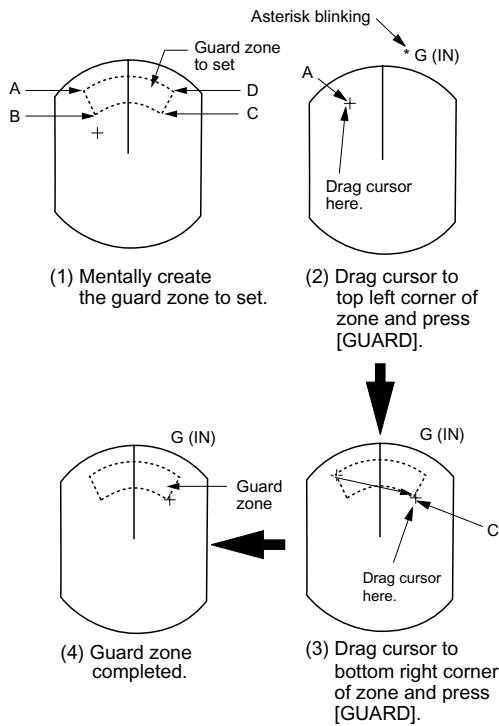

Figure 3-8 How to set the guard zone
1. Mentally create the guard zone you want to set. Figure 3-8 shows an example.
2. Operate the omnipad to set the cursor on point A (or B). Press the [GUARD] key. "*G (IN)" or "*G (OUT)," with asterisk blinking, appears at the top right-hand corner of the display. See Figure 3-8 (2). (The asterisk indicates the guard zone is partially set.)
- Operate the omnipad to set the cursor on point C (or D). See Figure 3-8 (3).
- Press the [GUARD] key. The asterisk disappears. See Figure 3-8 (4).